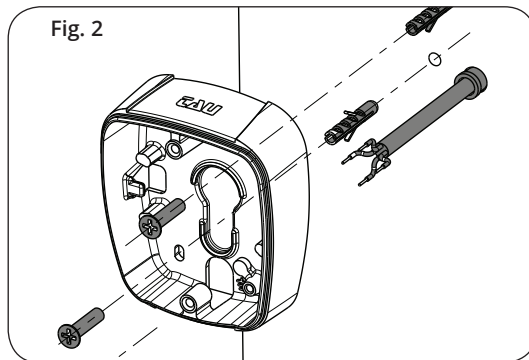

Fig. 2
1. INSTALLAZIONE TASTIERA (fig. 2)
1. KEYPAD INSTALLATION (fig. 2)
1. INSTALLATION TASTATUR (Abb. 2)